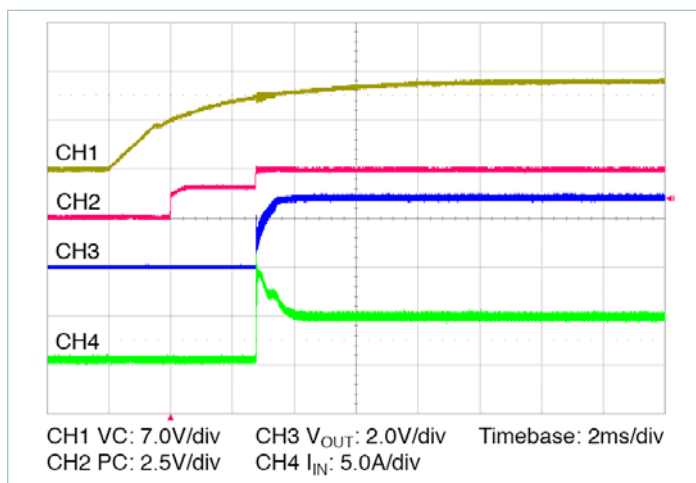

Figure 14 — Start up from application of VC; V_{IN} pre-applied $C_{OUT} = 16000\mu\text{F}$
- **Stand-alone operation (VC applied after V_{IN}):** In this case the VTM output will begin to rise upon the application of the VC voltage (See Figure 14). The Adaptive Soft-Start Circuit may vary the output rate of rise in order to limit the inrush current to its maximum level. When starting into high capacitance or a short, the output current will be limited for a maximum of 1200 μ s. After this period, the Adaptive Soft-Start Circuit will time out and the VTM module may shut down. No restart will be attempted until VC is re-applied or PC is toggled. The maximum output capacitance is limited to 16000 μ F in this mode of operation to ensure a successful start.